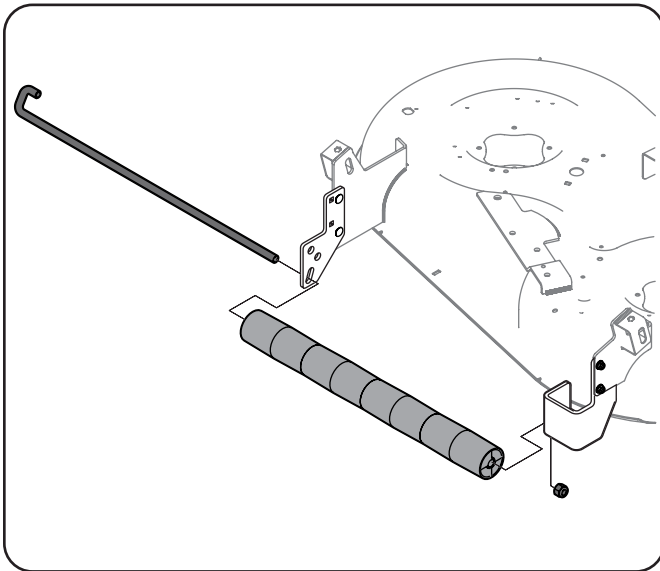

Figure 1-7
3. Align the four Rollers (#5) inside the brackets and slide the Roller Pin (#2) through the center of the rollers and into the mounting hole of the Right Roller Bracket (#7). See Figure 1-7.
4. Make sure that the J-shaped end on the Roller Pin is secured in the mounting hole of the Left Roller Bracket (#6) and then secure the end on the Roller Pin with a ½ Lock Nut (#4). See Figure 1-7.